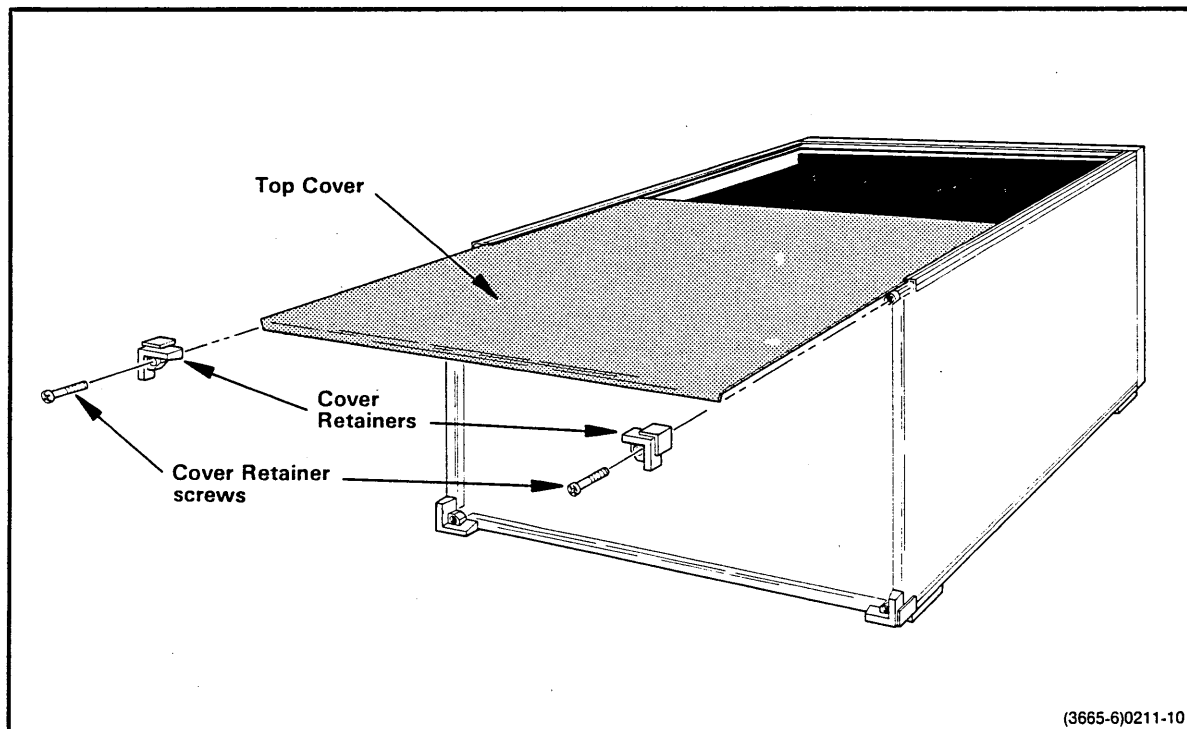

Fig. 5-4. Removing the 8560 top cover.
1. Remove the two plastic upper cover retainers, as shown in Fig. 5-4. Slide the cover toward the rear of the instrument and lift off.